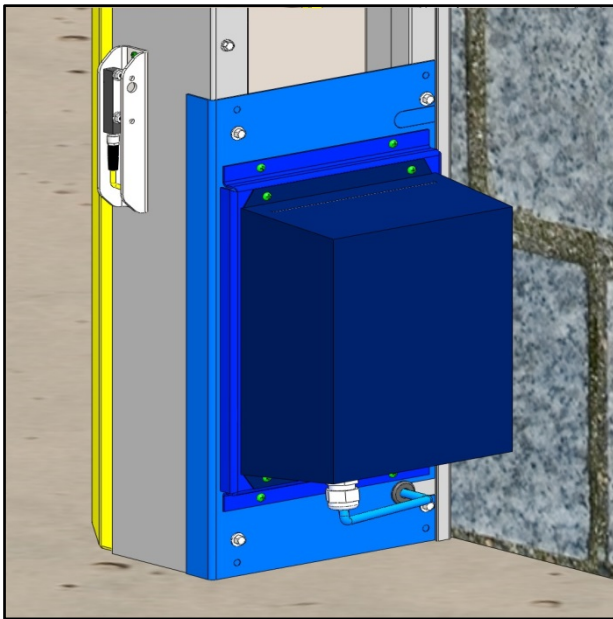
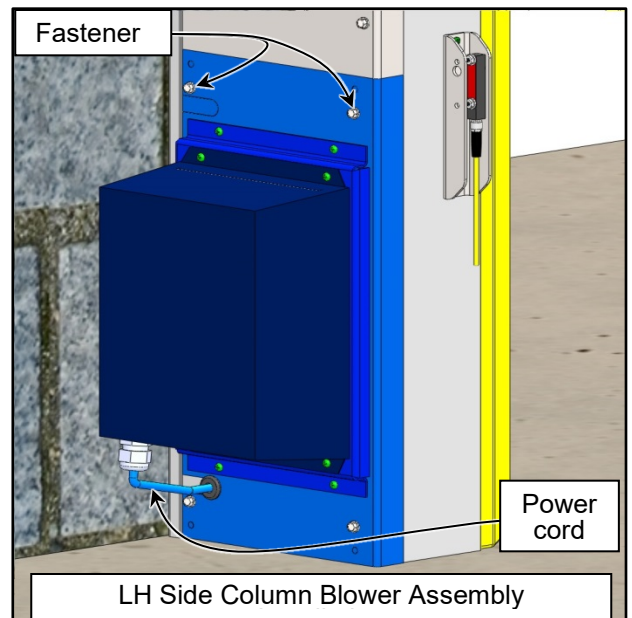

Figure 49
Figure 50
8. Orient blowers as shown. Install in the Side Column Assemblies. Use (4) #12-24 x ½ in. long hex flange serrated machine screws for each one. Tighten fasteners. (See Figure 49 and Figure 50)